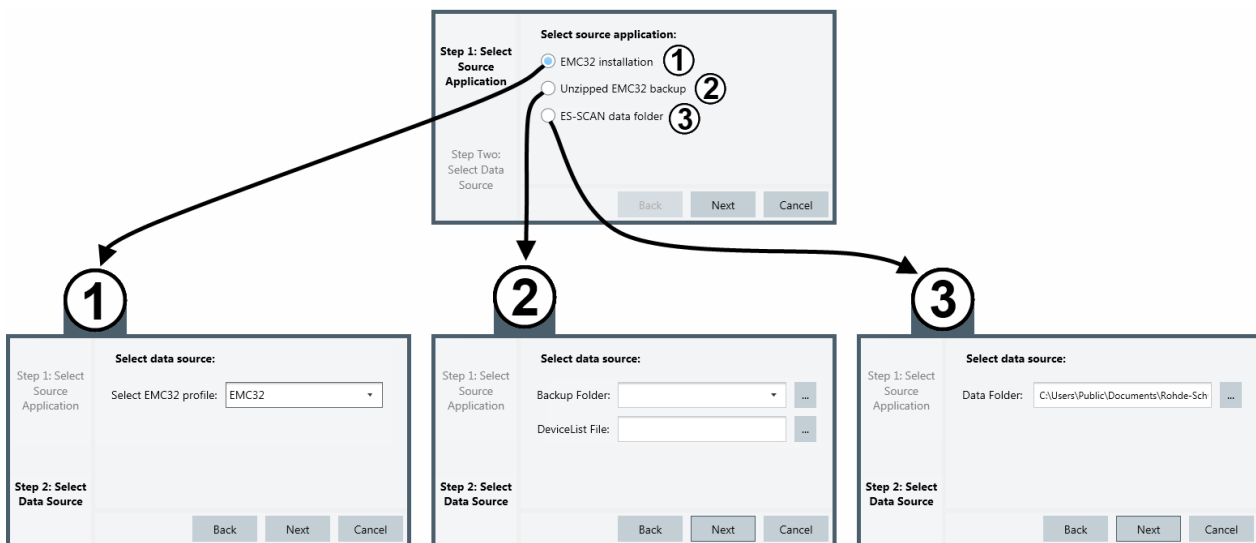

Figure 2-5: Source selection dialog (Step One & Step Two) of the XML data converter
In "Step One" of the source selection (upper dialog window in Figure 2-5), specify the type of source application.
In "Step Two" of the source selection (lower dialog windows in Figure 2-5), select the folders or data files.
- Case (1) in Figure 2-5: If the source application is an "EMC32 installation", select "EMC32" and click "Next".
- Case (2) in Figure 2-5: If the source application is an "Unzipped EMC32 backup", first extract the folders from the ZIP file that was created during the R&S EMC32 backup. Then select the backup folder (for example `C:\ProgramData\EMC32\Data\Backup\Unzipped`) and the device list file (for example `C:\ProgramData\EMC32\Configuration\EMC32.DeviceList`). Click "Next".
- Case (3) in Figure 2-5: If the source application is an "ES-SCAN data folder", select a folder that contains data generated by R&S ES-SCAN. Then click "Next".